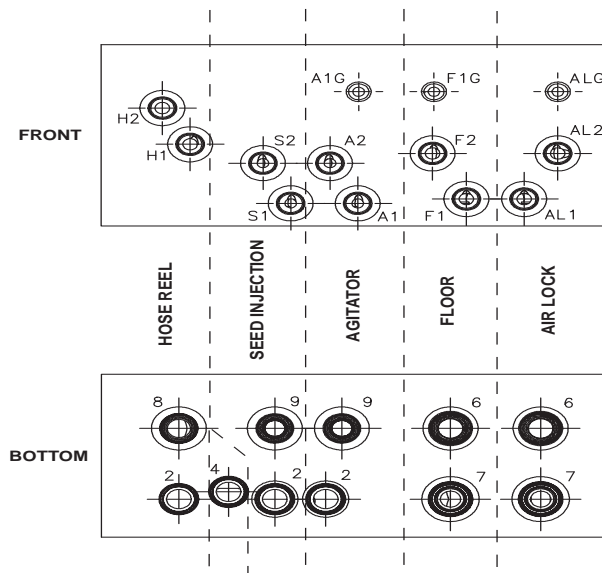

Figure 3
Figure 3 shows the valve block and the different hydraulic circuits. Each circuit, except for the Hose Reel (HR) circuit, is controlled by two valves. On the Floor (F) and Airlock (AL) circuits, the flow rate is controlled by the proportional valves. These valves can be manually stroked by inserting a small rod or screwdriver into the hole in the bottom of the solenoid. The Floor and Airlock circuits also have a directional valve that can be manually stroked by pressing the red knob on the bottom of the solenoid. The Agitator (A) and Seed Injection (S) circuits are controlled by a three-position valve that is actuated by one of two solenoids. These valves can be stroked manually by pressing or pulling on the red knob located on the bottom of the solenoid. The Hose Reel (HR) circuit is controlled by a two-position ON/OFF valve. Its solenoid can only be actuated in one direction by pressing on the red knob, located on the bottom. The flow rates for the Hose Reel, Seed Injection, and Agitator circuits are adjusted using the flow control valves. These valves are located directly behind the solenoids for their respective circuits.
As material drops into the top of the airlock, the pressure required to cut the material is monitored by the pressure switch. This switch is located on the forward port of the airlock valve section, in the manifold labeled AL1G (see Figure 3 on page 13). The switch is normally open. When the airlock motor stalls due to the rotor encountering an object it cannot cut, high pressure is created in the airlock circuit and the pressure switch closes. The amount of time the pressure switch is closed is monitored by a setting in the PLC box. If the switch remains closed for more than 0.5 second, the system automatically reverses the rotor by energizing the reverse solenoid. It also de-energizes the floor solenoid, thus shutting off the floor and the feed roll. The airlock will remain in reverse for approximately 1.5 second. The system will then restart the floor and feed roll after allowing the airlock to clear itself.